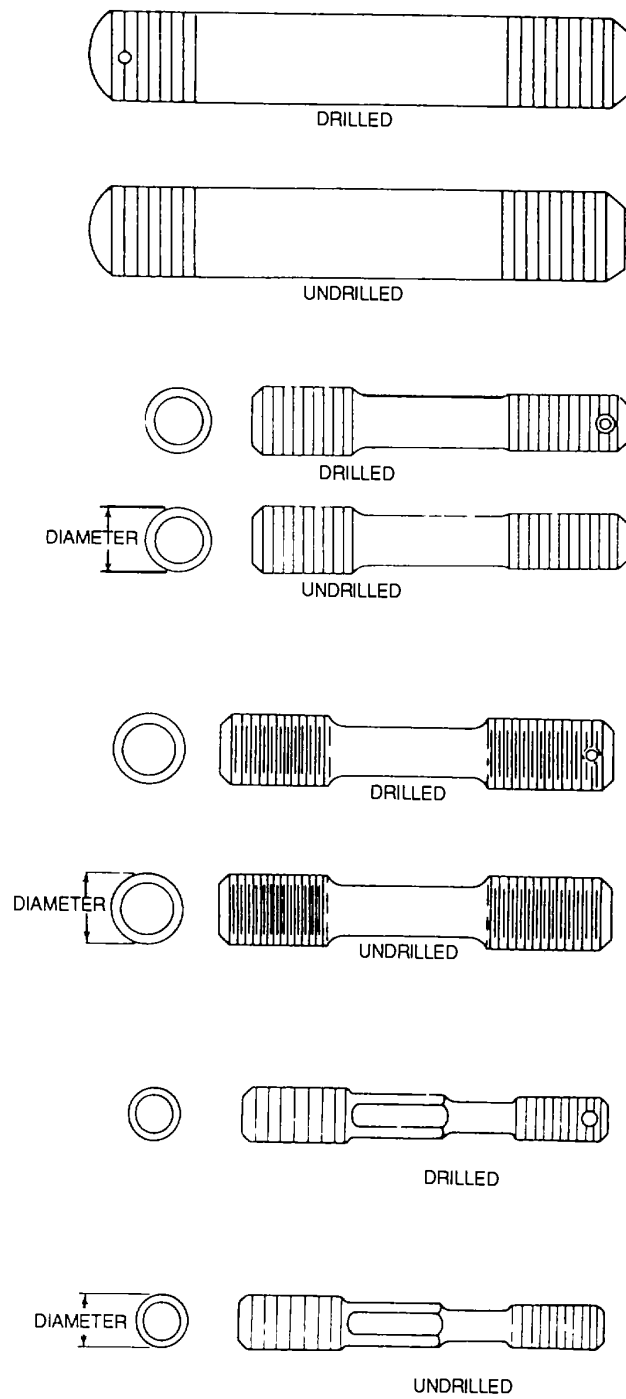

Figure 2-63. Stud Types
**2-10. Studs.** The type studs used in aircraft structure are coarse thread studs, fine thread studs, stepped studs, necked stepped studs, wrench pad necked stepped studs, locking studs, and self-tapping locking studs. Studs are available either drilled or undrilled on the nut end. Figure 2-63 shows some stud types. The type studs used in aircraft structures/components are coarse thread studs.